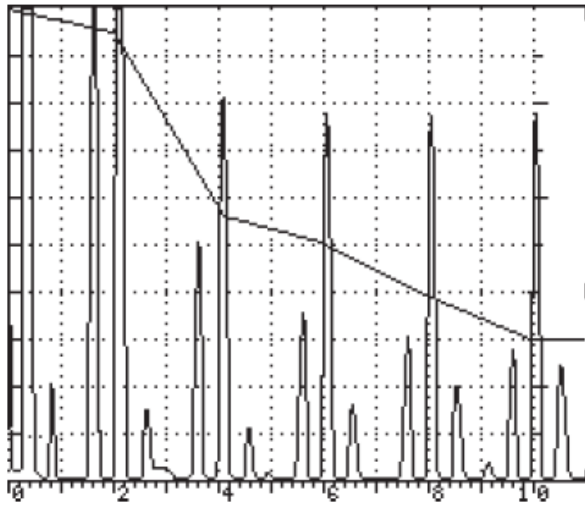

Figure 5-63
2. Press the SELECT menu soft key; this will log all the Dac Curve points and automatically draw for the selected points/echoes (see *Figure 5-63*).